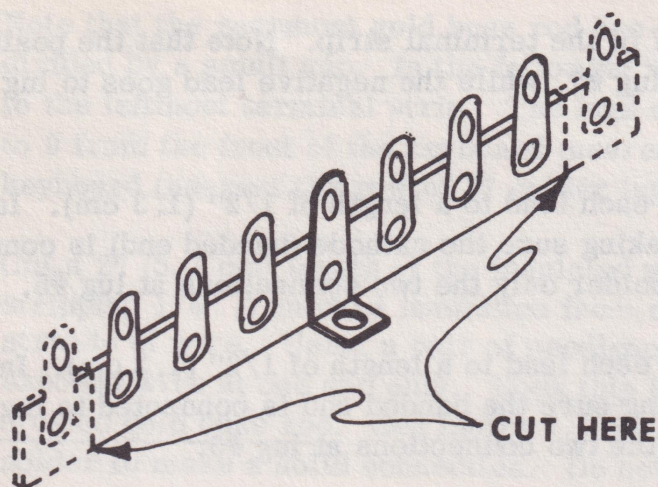

Figure 3
- () Locate the 9-lug terminal strip. Using a pair of diagonal cutters, or other suitable tool, cut one terminal from each end of the strip. The terminal strip should now look like figure 3.